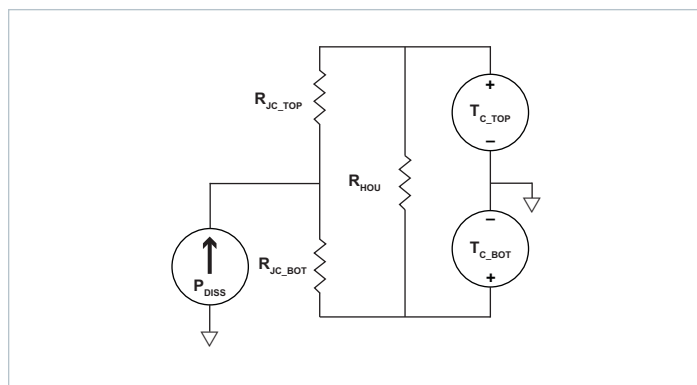
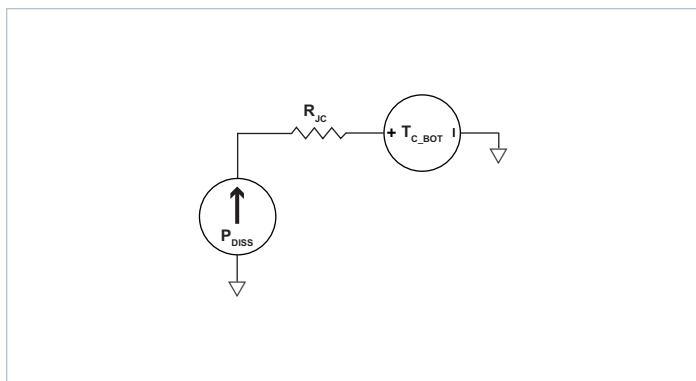

Figure 24 – Double sided cooling VIA thermal model
Figure 25 – Single-sided cooling VIA thermal model
The VIA™ package provides effective conduction cooling from either of the two module surfaces. Heat may be removed from the top surface, the bottom surface or both. The extent to which these two surfaces are cooled is a key component for determining the maximum power that can be processed by a VIA, as can be seen from specified thermal operating area in Figure 1. Since the VIA has a maximum internal temperature rating, it is necessary to estimate this internal temperature based on a system-level thermal solution. To this purpose, it is helpful to simplify the thermal solution into a roughly equivalent circuit where power dissipation is modeled as a current source, isothermal surface temperatures are represented as voltage sources and the thermal resistances are represented as resistors. Figure 24 shows the “thermal circuit” for the VIA module.
- Single side cooling: the model of Figure 24 can be simplified by calculating the parallel resistor network and using one simple thermal resistance number and the internal power dissipation curves; an example for bottom side cooling only is shown in Figure 25.